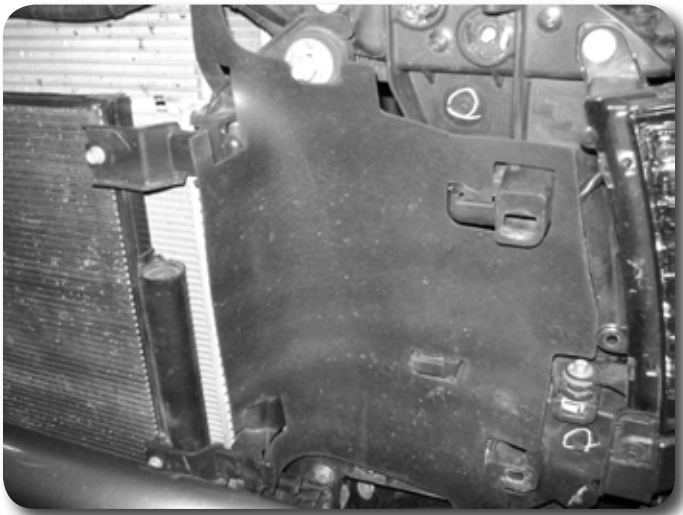

Figure 6
8. Remove the rubber air guards Figure 6